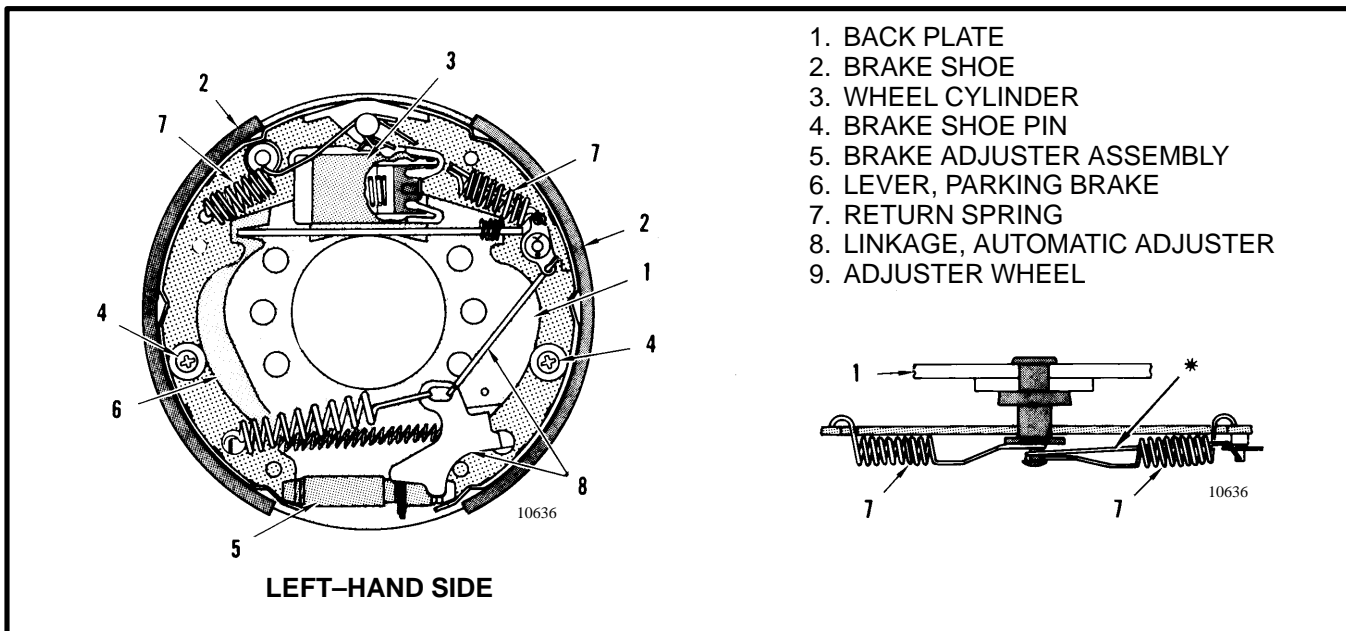

FIGURE 5.. BRAKE ASSEMBLY, E/J1.25-1.75XL (E25-35XL)
1. Assemble the wheel cylinder as shown in FIGURE 5. Use only HYSTER APPROVED parts.